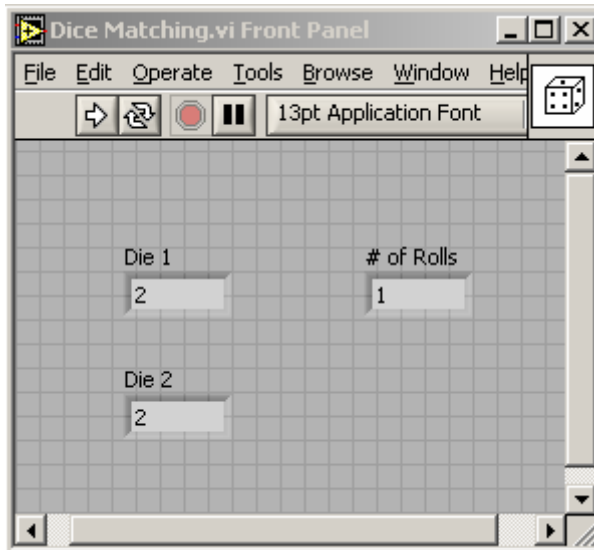

Figure 3.3: Die Matching Front Panel
- iii. On the **Front Panel**, we need 3 **Numerical Indicators** (*two will show the number on each die and the other will indicate the number of rolls taken*). Label each output as follows: “**Die 1**”, “**Die 2**”, and “**# of Rolls**” as shown in Figure 3.3.